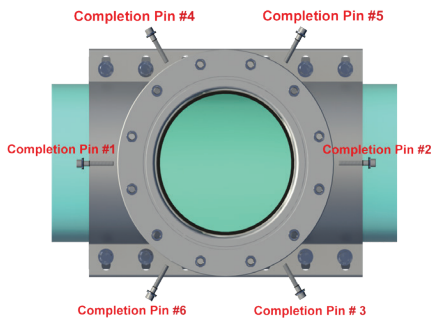
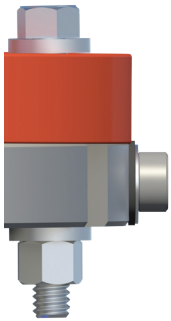

Figure 84
Figure 85
5.3.11 Lock the valve cartridge assembly in place by tightening the 6 Allen-head completion pins. Tighten each until the head of the completion pin bottoms out against the flange (see Figure 85, on the next page). Figure 84 on the next page, shows a cross tightening pattern which starts with Locking Pin #1 followed by Locking Pin #2, #3, #4, #5, and #6.
NOTE: Do not start the next step until all completion pins have been properly set. Failure to properly set the completion pins could result in hard operation and impact valve performance (see Figure 84 on the next page).